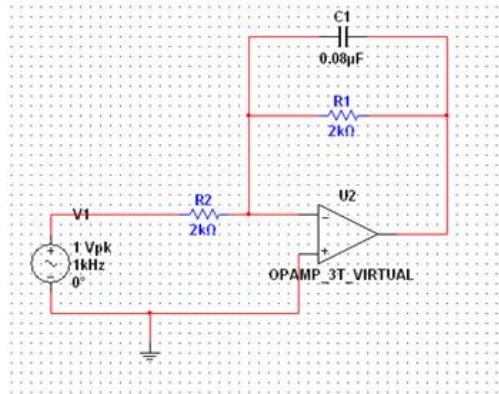

Figure 7. Completed Schematic
3. Use this method to complete wiring your entire design, so that it looks like Figure 7.